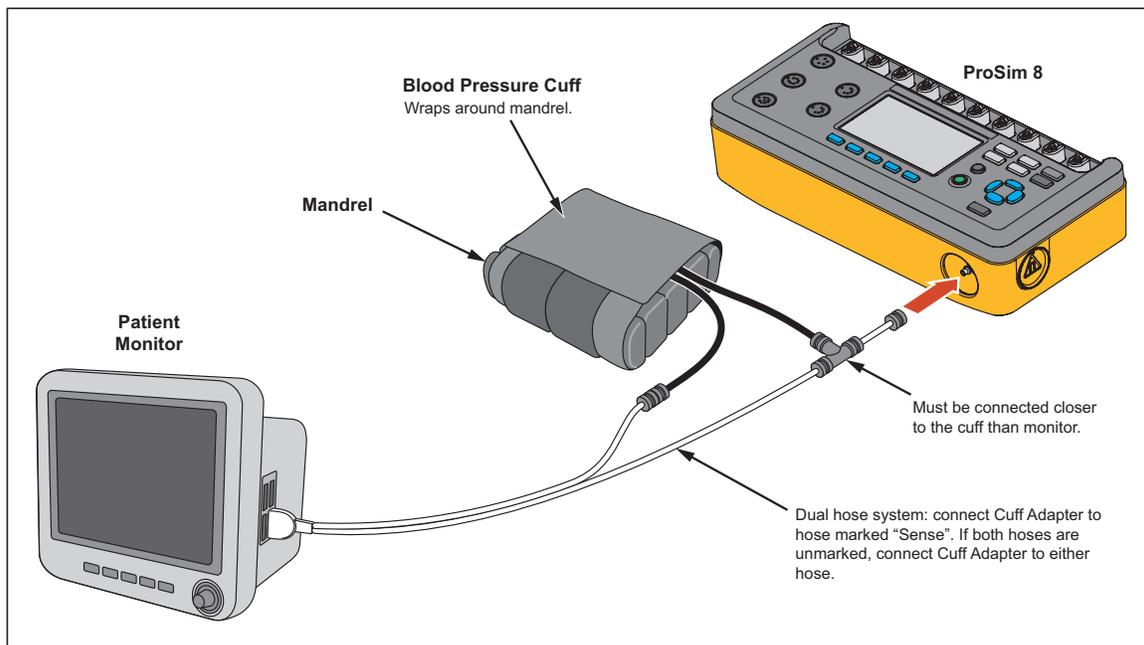

Figure 37. Pressure Leak Test Connections
1. Connect the NIBP monitor to the Product as shown in Figure 37.
Connect the Product to the monitor and cuff as shown in Figure 37.